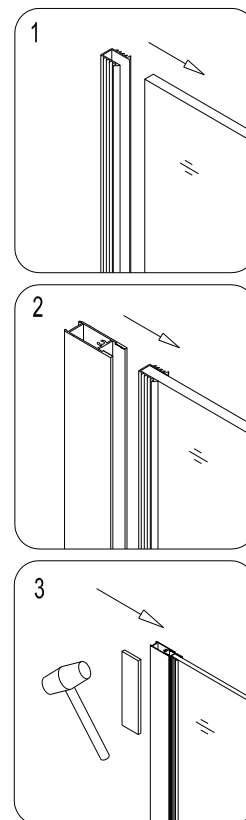

Fig 4
4. Locate the **Stationary glass (3)**. Small hole on the short side of the stationary glass should be on the bottom and away from the wall. Place the **U-shape seal gasket (21)** on the long (vertical) side of the glass panel. Push the **Stationary glass (3)** into **Glass profile for stationary glass (2)** groove using the hammer. To make it easy you can apply any liquid soap on the U-gasket before pushing the **Stationary glass (3)** into **Glass profile for stationary glass**. (**NOTE: If the stationary Glass and the glass profile have been assembled, you can skip this step.**) See Fig 4 for details.